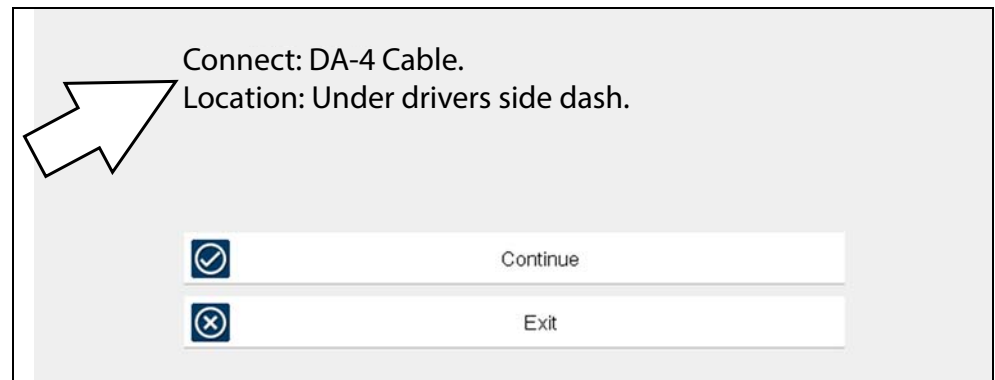

Figure 4-2 Vehicle data cable connection information
2. After identifying the vehicle using the Scanner or OBD-II/EOBD function (see Vehicle Identification on page 21) review any on-screen information that may be provided for data cable connection, usage and DLC location (Figure 4-2).